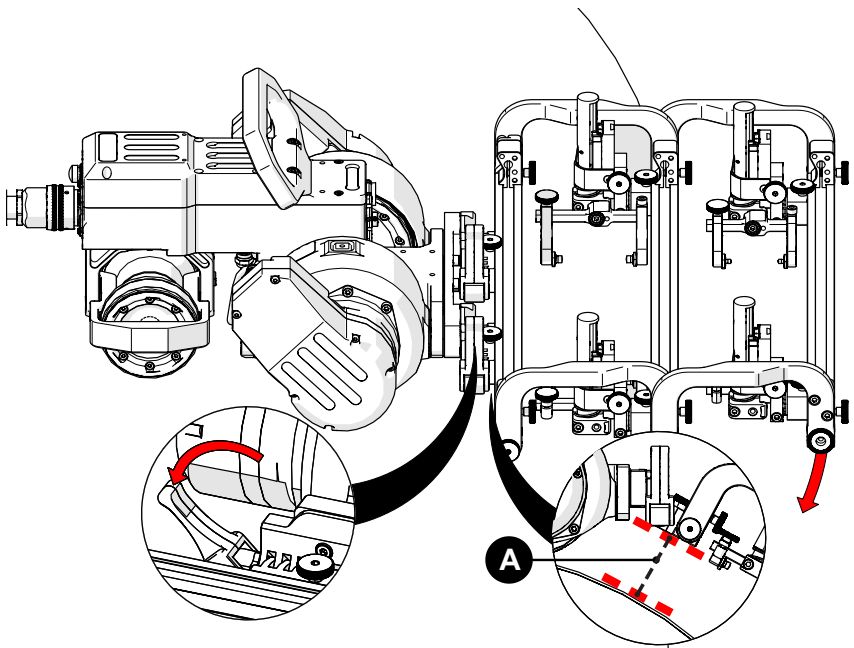
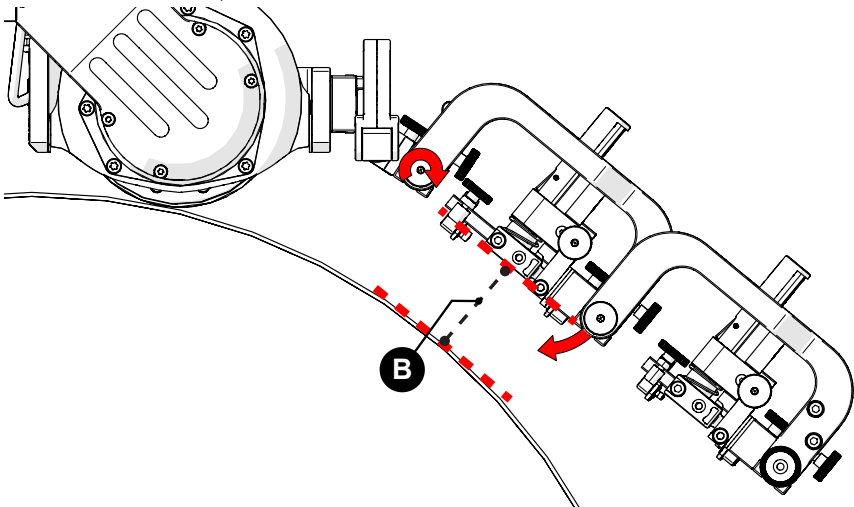
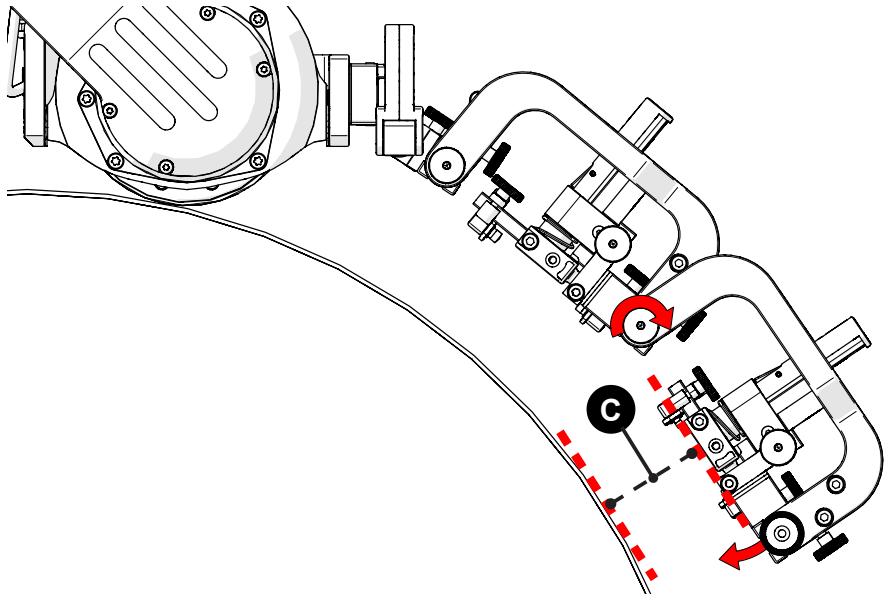

Fig. 130 - Align swivel mount with scan surface
Fig. 131 - Set rear rotational adjustment knob
Fig. 132 - Set front rotational adjustment knob
4. Release the pivot mount levers (Fig. 130) to position the pivot mount parallel to the scan surface **A** (Fig. 130). When alignment with the scan surface is achieved, lock the pivot mount levers.
5. Loosen the rear rotational adjustment knob to lower the weld scan frame and position the frame's primary probe holders **B** (Fig. 131) parallel to the inspection surface. Ensure that gap **B** (Fig. 131) is no smaller than gap **A** (Fig. 130). Tighten rear rotational adjustment knob to secure.
6. Loosen the front rotational adjustment knob (Fig. 132) to lower the weld frame towards the inspection surface while ensuring gap **C** (Fig. 132) is no smaller than gap **B** (Fig. 131). Tighten front rotational adjustment knob to secure.